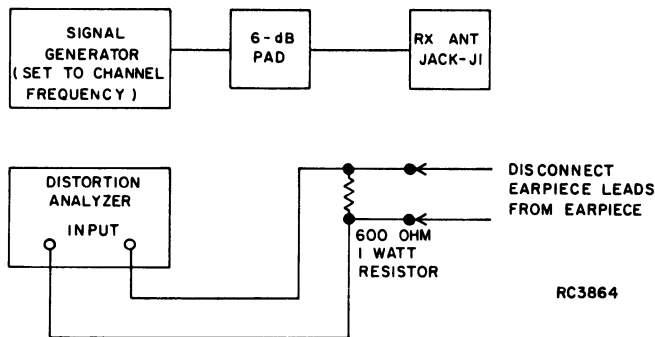

Figure 5 - Test Equipment Set-up
1. Connect the test equipment to the receiver as shown in Figure 5.